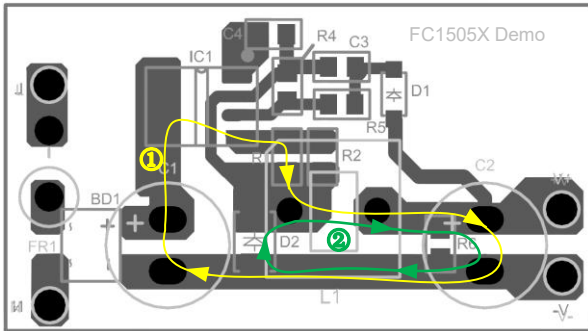

Fig.2
As shown in fig.2, minimize the power loop area of ① and ② as small as possible. Power loop ① is formed by input capacitor–IC–inductor–output capacitor. Power loop ② is formed by inductor–output capacitor–freewheeling diode. Make sure these two loop area reduce to its minimum.